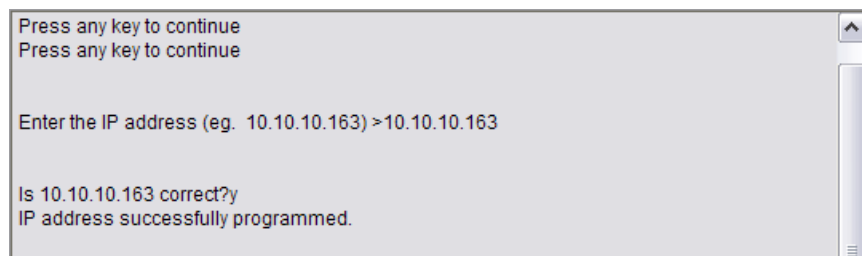

Figure 26. Successful Programming of IP Address
4. The MCU will prompt you to specify and verify an IP address. Figure 26 shows an example of successful programming of the IP address.